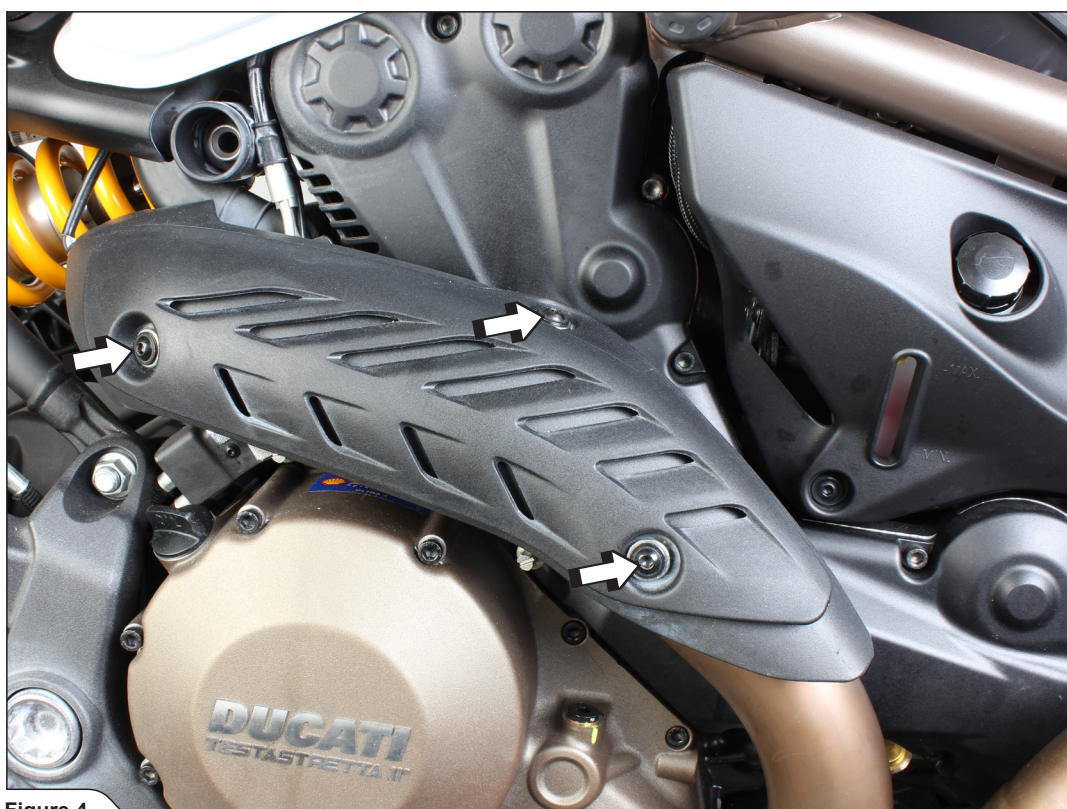

Figure 4
6. Unscrew the marked bolts and remove the outer heat shield (Figure 4).